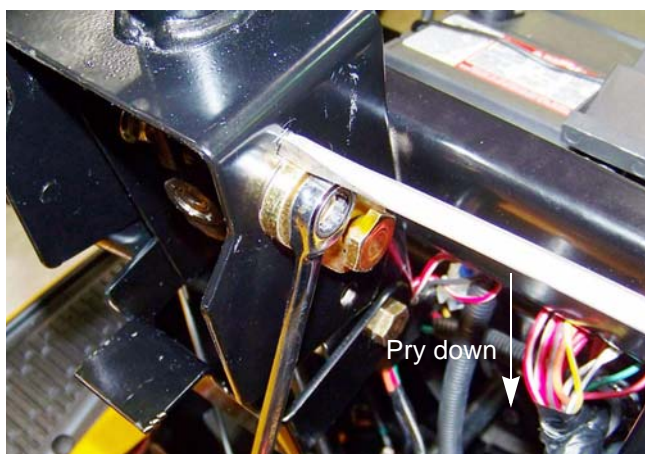

Figure 6A.22
- Insert a flat headed screw driver into the hole above the adjuster plate. See Figure 6A.22.